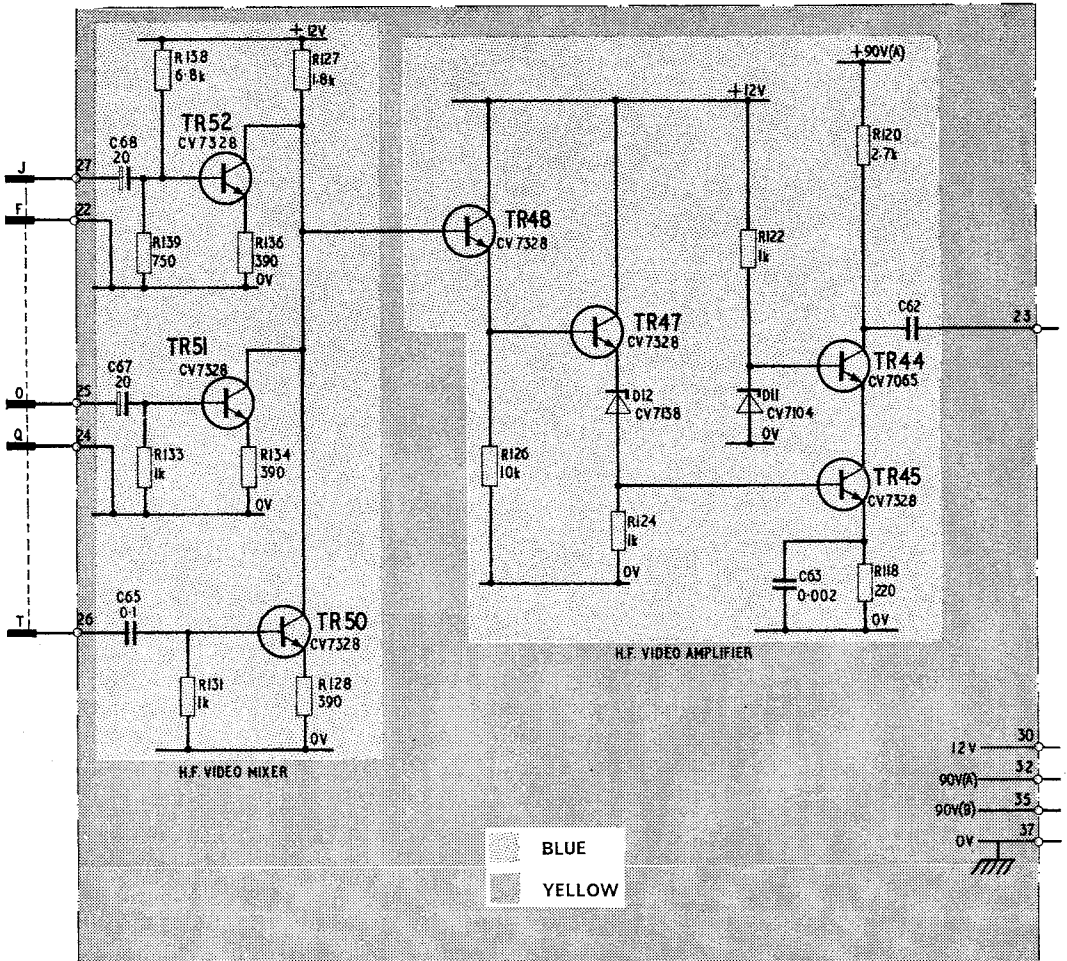

Fig 14 Circuit diagram
23. **Fault finding in a circuit.** Preliminary diagnosis from a block diagram will usually have located the defect to a functional block. The next step is to check all input and output waveforms of this block; which may contain several transistors or valves (see the HF video amplifier in figure 14). Make any deductions possible from these waveforms and then make voltage measurements in the part of the circuit considered to be faulty. If the unserviceable component cannot be deduced from these measurements it will be necessary to make resistance measurements to obtain further information.